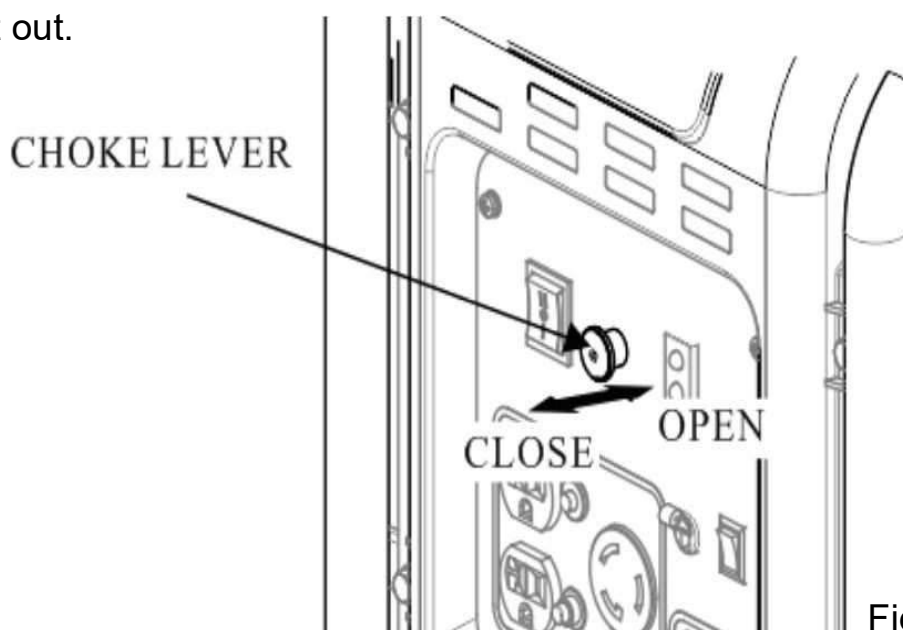

Fig. 16
6. After the starting process is complete, push the choke lever back to the "OPEN" position. (See p.26 fig.16)
1. Set the choke lever (p.17 fig.5 (18)) to "CLOSE" for cold start, by pulling it out (see p.26 fig.16).